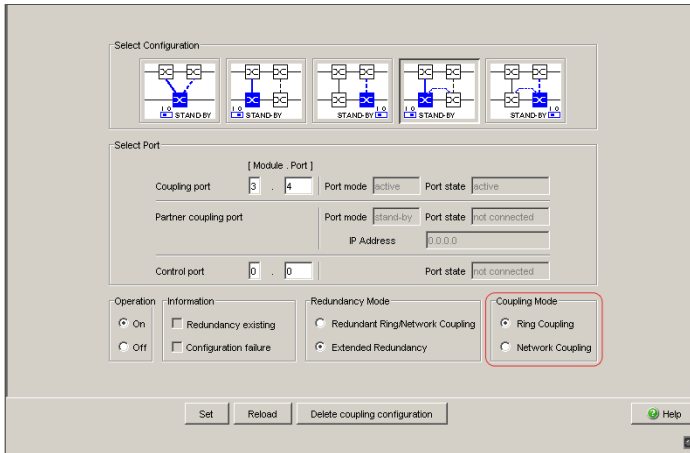

Figure 39: Selecting the coupling mode
- In the “Coupling Mode” frame, select (see figure 39)